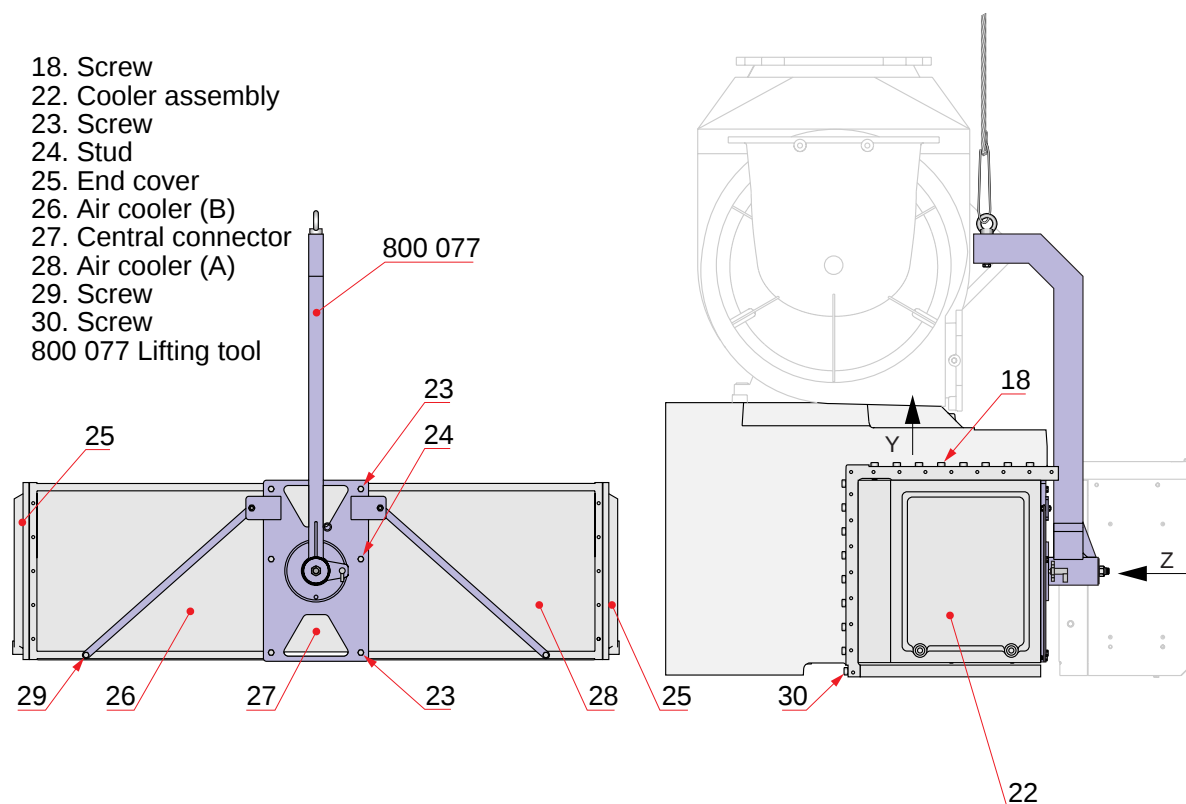
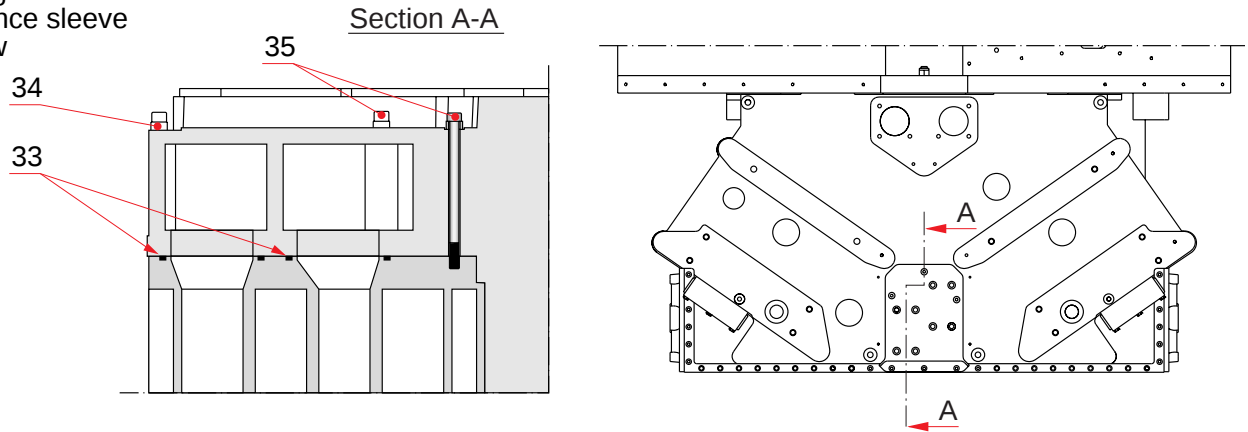
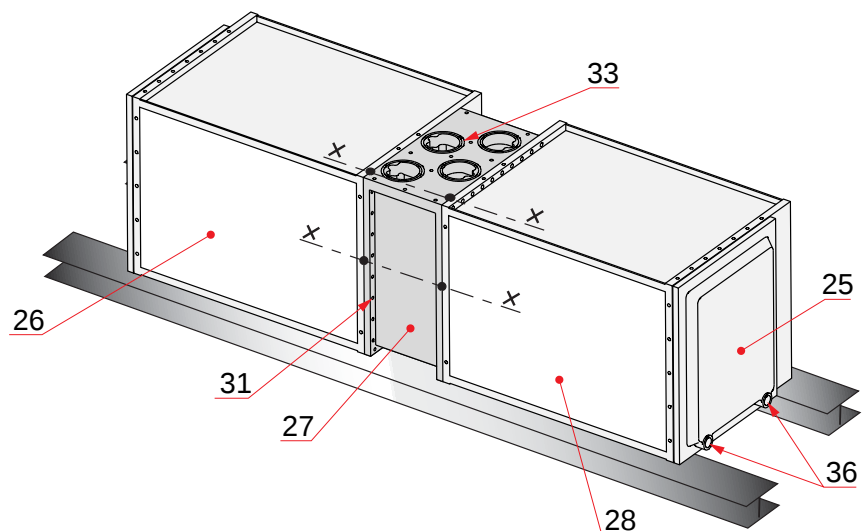
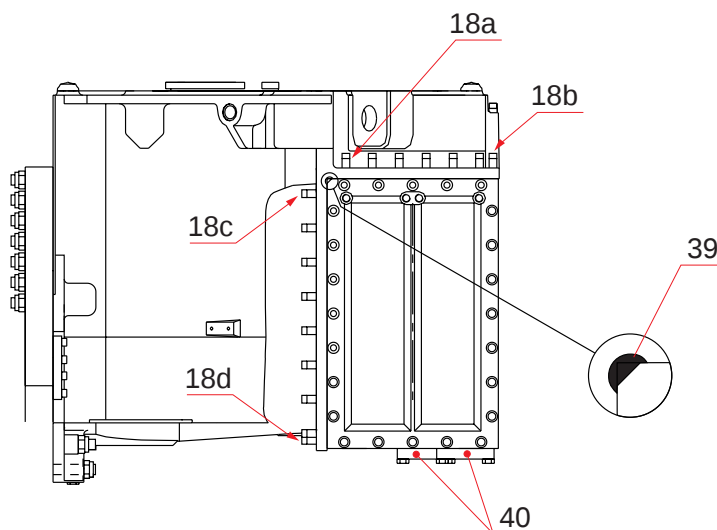

Fig 15-6
Fig 15-7
Fig 15-8
Fig 15-11
1 Drain the cooler through the draining plugs (36), see Fig 15-8.
13 Remove the air cooler fastening screws (35), see Fig 15-7.
14 Remove the air cooler fastening screws (18 and 30), (top screws (18) last), see Fig 15-6.
- 15** Remove the flanges (40), see Fig 15-11.
19 Remove the end covers (25) of the air coolers, see Fig 15-8.
- 1** Mount the coolers (26) and (28), see Fig 15-8 and the central connector (27) with the screws (31). **Note! Renew all gaskets!** Take care that the coolers are well supported. The central connector has to be fitted with 2 pieces of O-rings on both sides. Align the cooler and central connector as in Fig 15-8 marked X - X.
- 2** Mount the end covers (25). Glue compound (e.g. Easy Work RTV 345) must be applied on all gaskets.
- 6** Apply approved sealant (39) (e.g. Duramix 4031) according to Fig 15-11. **Note! The sealant sets within 10 - 15 minutes.**
- 7** Lift the air cooler assembly into correct position. Ensure that the O-rings (33) stays in place when lifting the cooler into position.
- 8** Mount the screws (18a-18d) on both sides, see Fig 15-11. The charge air cooler has to be tightened in turn in directions Y and Z, see Fig 15-6.
- 9** Mount all screws (18), (30) and (35) of the air cooler, see Fig 15-6 and Fig 15-7, and tighten these according to chapter 07. Remove the lifting tool.